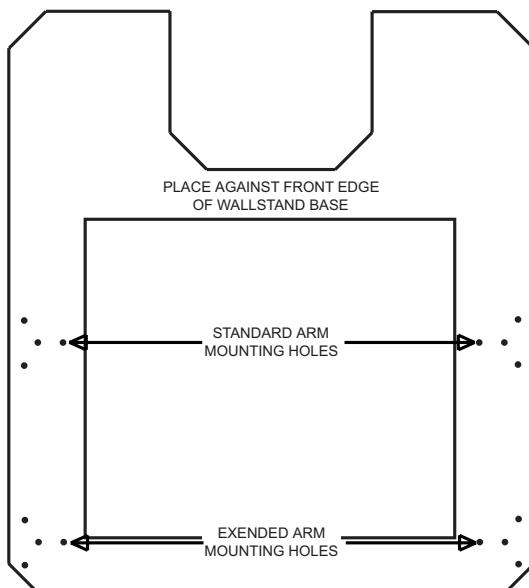

Figure 13-1 Image Pasting Barrier Drilling Template
- 1.) Align the U-side of the metal template (Figure 13-1) to the wall stand floor plate.